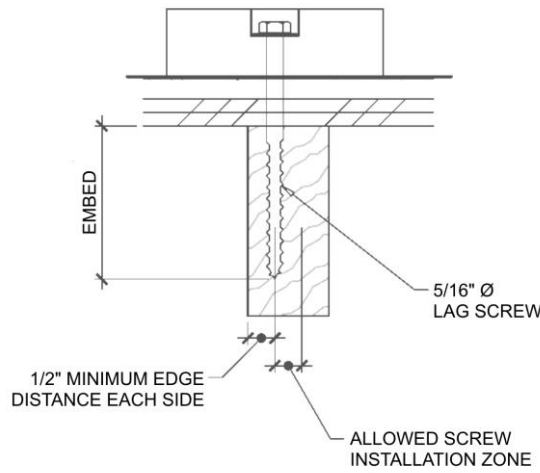

FIGURE 3. TYPICAL ANCHOR WITH LAG SCREW ATTACHMENT
7. Wind uplift check (anchor fastener check, see Figure 3):